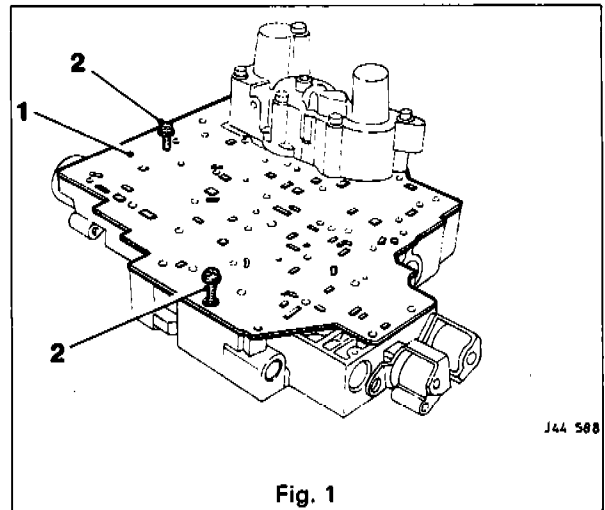

Fig. 1
- Fit two bolts to sandwich plate / valve body for alignment purposes, see Fig. 1.